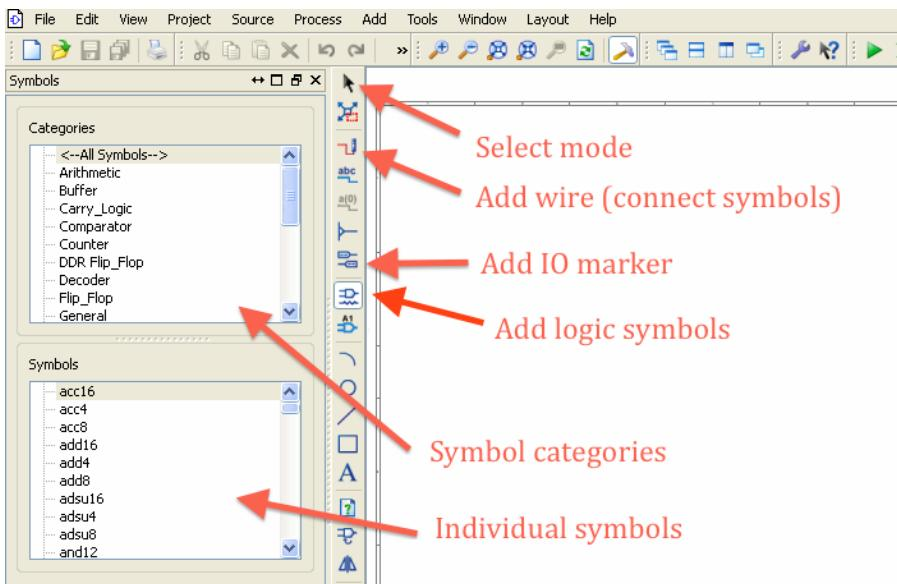

Figure 3-6 The Schematic Editor.
you can draw the schematic. This is shown in Figure 3-6 with the parts that you are going to need to use labeled.
- Add logic symbols. This is the mode selected in Figure 3-6. The left-hand panel then divides into a top half that shows categories of circuit symbols and a bottom half that has a list of the component symbols in that category.
Put the screen into the Add Logic Symbols mode by clicking on the “Add Symbols” icon (see Figure 3-6). You are going to need to add two two-input AND gates, a two-input OR gate, and two NOT gates (inverters).